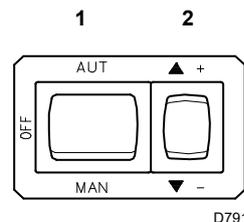

Fig. 25
- Start the burner by closing the control devices and with the switch 1)(Fig. 25 on page 25) in "MAN" position. As soon as burner starts, check the fan rotation direction through the flame inspection window 25).
- The pump can be considered to be primed when the light oil starts coming out of the screw 3). Stop the burner: set switch 1)(Fig. 25 on page 25) to "OFF" and tighten the screw 3).
Turn off the remote controls and set the switch 1)(Fig. 25) to "MAN".
Now press the button 2)(Fig. 25) "+" and keep it pressed until the servomotor has reached 130°.
Press button 2)(Fig. 25 page 25) "Output decrease" and keep it pressed until the servomotor reaches 30° (factory adjustment).
Lightly press the "increase output" button 2)(Fig. 25 on page 25) so the servomotor rotates by about 15°.